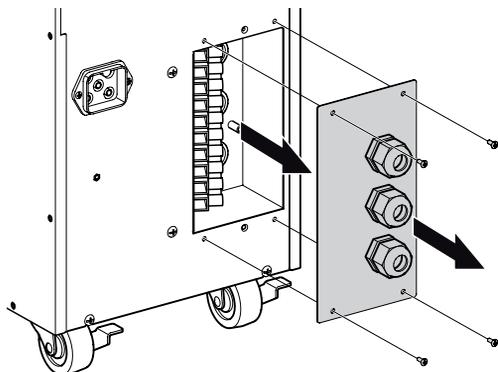

Figura 16. Access to terminal block.
1. Access to terminal block: remove the 2 screws of the terminal block cover (vedere Figura 16)